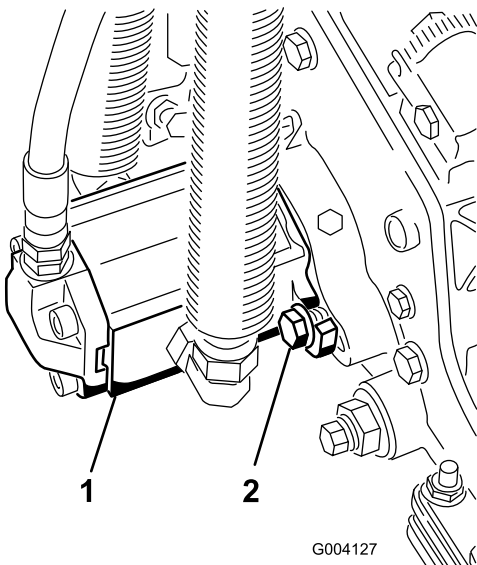

Figure 15
10. Install the motor by rotating it clockwise so that the motor flanges clear the cap screws (Figure 15). Rotate the motor counterclockwise until the flanges encircle the cap screws then tighten the cap screws